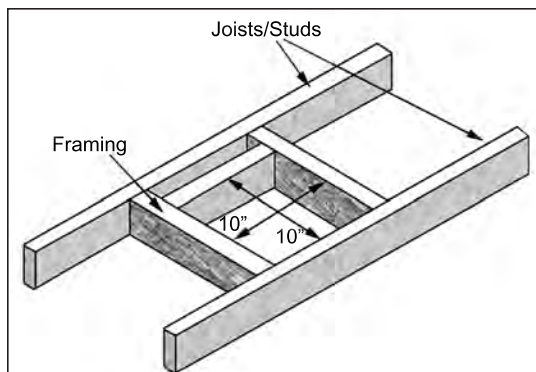
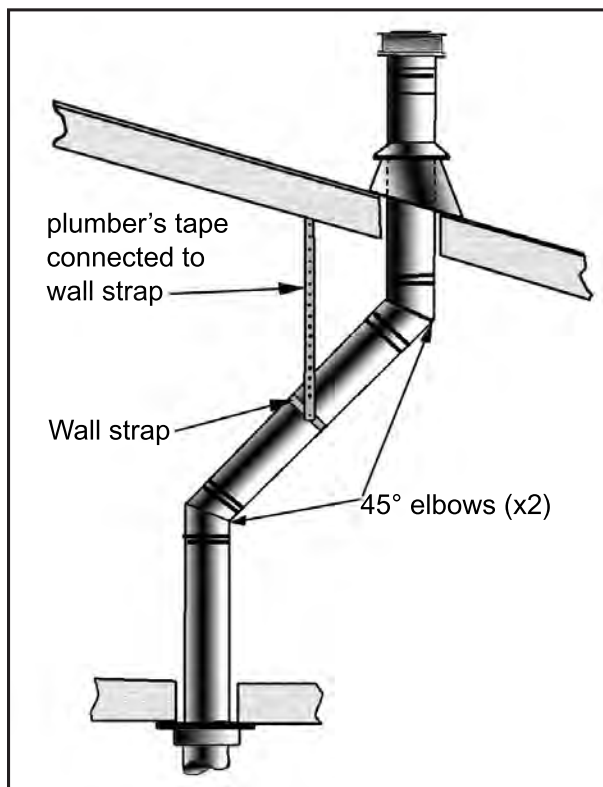

Figure 29. Vent Framing For Wall or Ceiling.
Figure 36: Use of Wall Straps.
4. Frame the hole as shown in Figure 29.
5. Trim the wall thimble to match the wall thickness as necessary. Install the wall thimble and secure it to the inner wall frame using four (4) 1½" wood screws. If a wall is greater than 8" (203mm) in depth, the clearance above the flex must be 4¾" (111mm)
A 10" (254 mm) x 10" (254 mm) frame (see Figure 29) will assure the proper support and spacing for the vent pipe as it passes through the wall. Installations in Canada require that a wall thimble be used for passing through walls and ceilings. All sealing and vapour barriers must comply with local building codes.
Step 3. With the pipe in the correct position and attached to the fireplace, mark the wall for a 10 inches (25.4 cm) x 10 inches (25.4 cm) square hole (see Figure 29). The center of the hole should match the center line of the horizontal pipe. Cut and frame the hole in the exterior wall where the vent will be terminated. If the wall being penetrated is made of a non-combustible material (i.e. masonry or concrete) a 7 inches (17.8 cm) hole is acceptable.
Step 3. To install the Round Support Box/Wall Thimble in a flat ceiling, cut a 10 inch (25.4 cm) square hole in the ceiling, centered in the hole drilled in Step 2. Frame the hole as shown in Figure 29.
- (1) If an offset is necessary in the attic to avoid obstructions, it is important to support the vent pipe every 3 feet (914 mm), to avoid excessive stress on the elbows, and possible separation. Wall straps are available for this purpose (see Figure 36).
- (2) When ever possible, use 45° degree elbows instead of 90° degree elbows. The 45° degree elbow offers less restriction to the flow of flue gases and intake air.
- (3) For multi story installations; a ceiling firestop is required at the second floor, and any subsequent floors (see Figure 29). The opening should be framed to 10" (254 mm) x 10" (254 mm) inside dimensions, in the same manner as shown in Figure 29.
- (4) Any occupied areas above the first floor, including closets and storage spaces, which the vertical vent passes through, must be enclosed. The enclosure may be framed and sheet-rocked with standard building materials. However consult the appliance manufactures installation instructions for the minimum allowable clearance between the outside of the vent pipe, and the combustible surfaces of the enclosure. Do not fill any required air spaces with insulation.